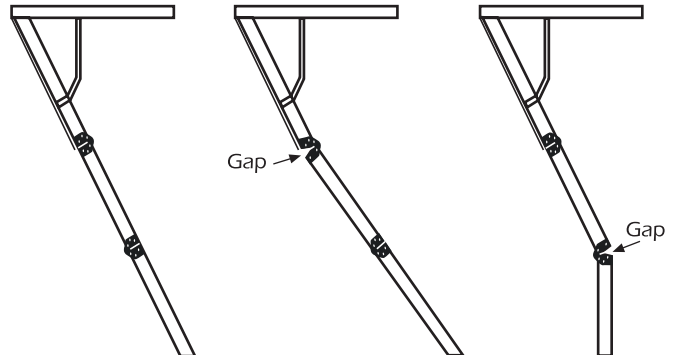

Fig. 10 - Correct Fig. 11 - Too Long Fig. 12 - Too Short
- 7.** After cutting off bottom section to fit the floor, have someone stand on the second or third step from the bottom and inspect the side rails to make certain there are no gaps between the hinged sections. All three sections should form a straight line. (See Figure 10 for correct stair alignment.)
Step 14- Check to make sure of proper length. Standing on second step of the bottom section, the stairs should fit flush with the floor and all joints should be tight with no gaps (Fig. 10). If the stairs are too long (Fig. 11), trim them again. If the stairs are too short (Fig. 12), do not use them. The bottom section will have to be replaced. Contact your vendor or Bessler Stairway Company.